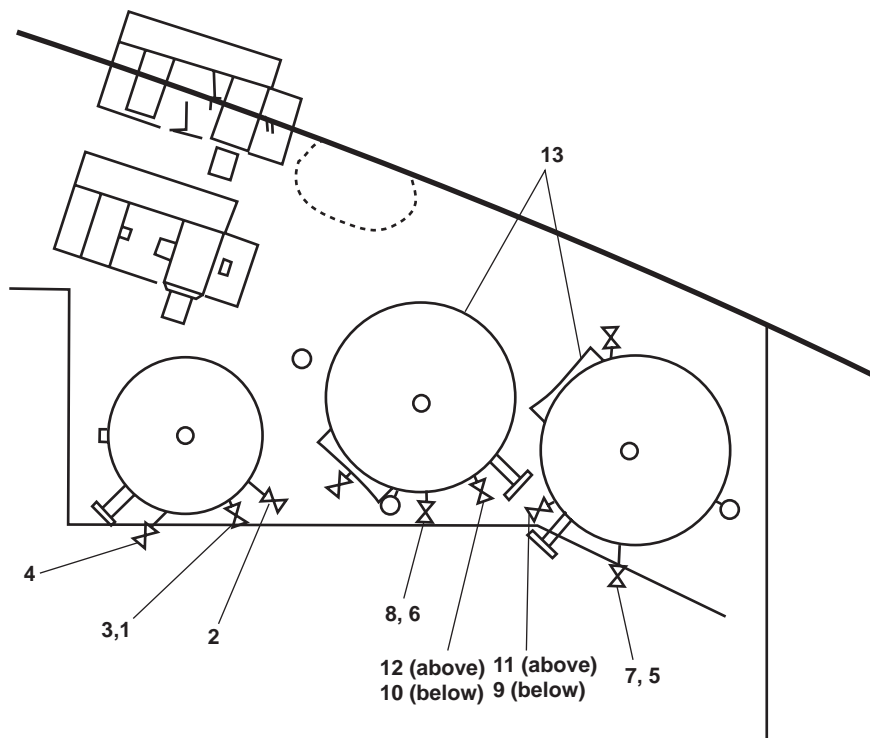

Figure 3. Compressed Air System Component Locations
5. Ensure that valve CA-48, SVCE AIR TK DR (figure 3, item 1) is CLOSED.
6. CLOSE valves CA-13, SVCE AIR TK INL (figure 3, item 2), CA-51, AUTO DR (figure 3, item 3), and CA-14, SVCE AIR TK OUT (figure 3, item 4).
8. Ensure that valves CA-47, STG AIR TK DR (figure 3, item 5) and CA-46, STG AIR TK DR (figure 3, item 6) are CLOSED.
9. CLOSE valves CA-50, AUTO DR (figure 3, item 7) and CA-49, AUTO DR (figure 3, item 8).
10. CLOSE valves CA-11, STG AIR TK INL (figure 3, item 9) and CA-12, STG AIR TK INL (figure 3, item 10).
13. CLOSE valves CA-4, STG AIR TK OUT (figure 3, item 11) and CA-3, STG AIR TK OUT (figure 3, item 12) at the starting air receivers (figure 3, item 13).